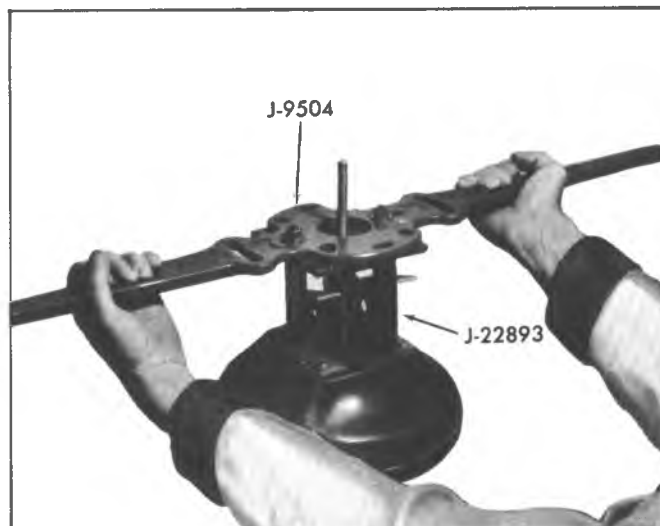

Fig. 4A--Separating Tilt Bracket Type Housings with Tools J-9504 and J-22893
- c. **Tilt Mounting Bracket Except Chevelle (Fig. 4A)**